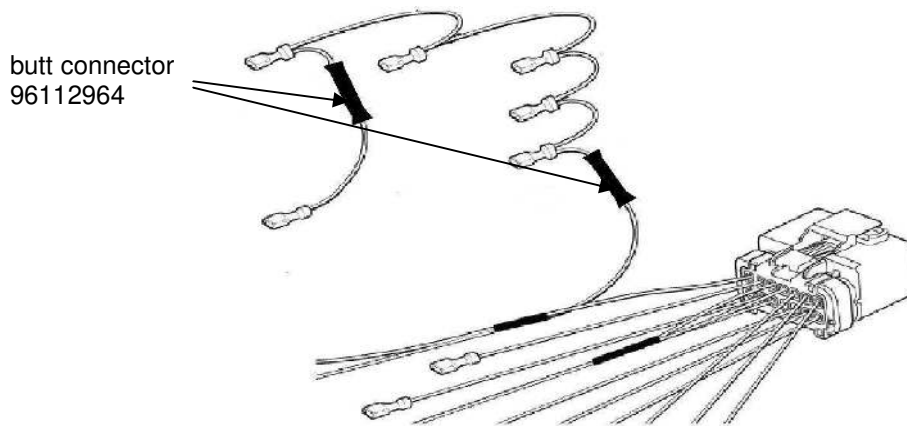

Figure 6
7. Strip the insulation from the wire cut in step 5 and crimp on the supplied butt connectors 96112964. Use a heat gun to activate the heat shrink tube of the butt connector. See figure 6.